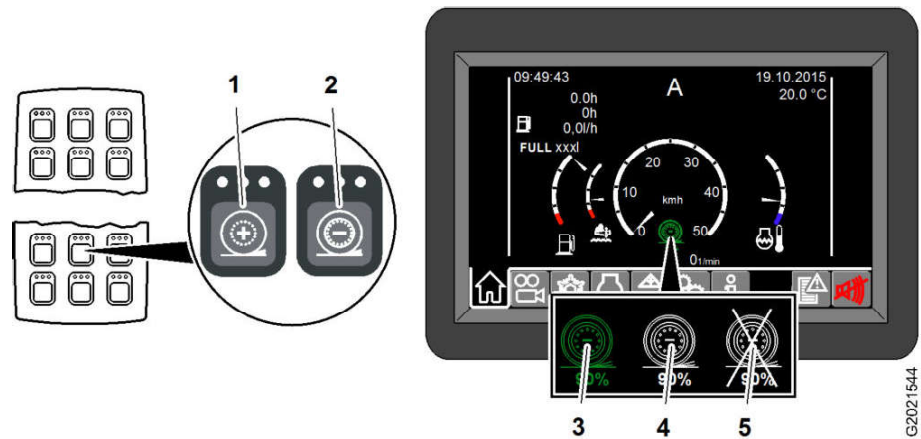

Fig. 290: Reversing
- ▷ Tractive force adjustment active 3 (see: fig. 290, page 171) is displayed.
- ▷ Tractive force adjustment inactive 4 (see: fig. 290, page 171) is displayed.